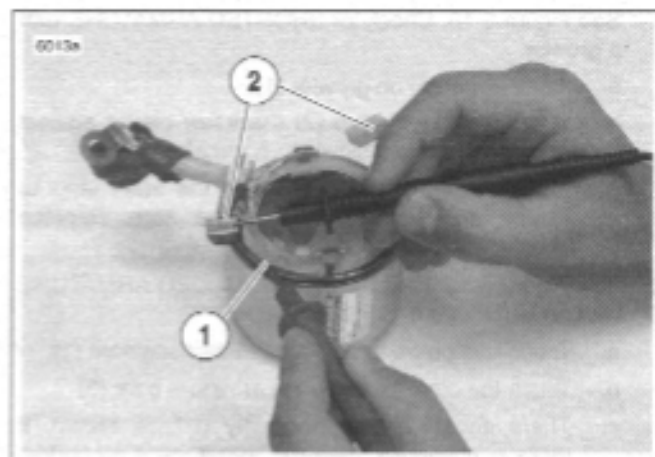
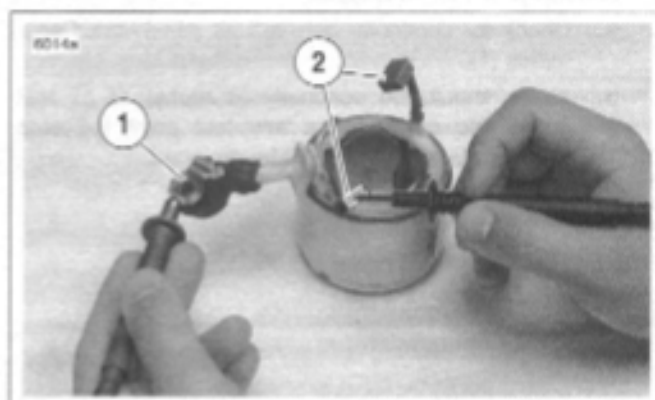
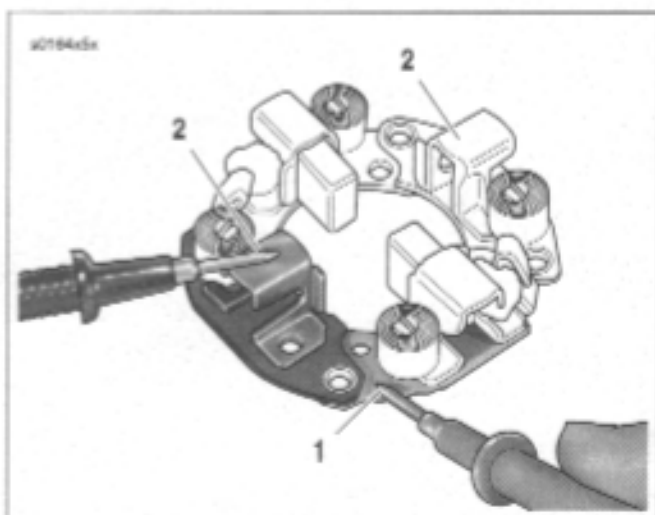
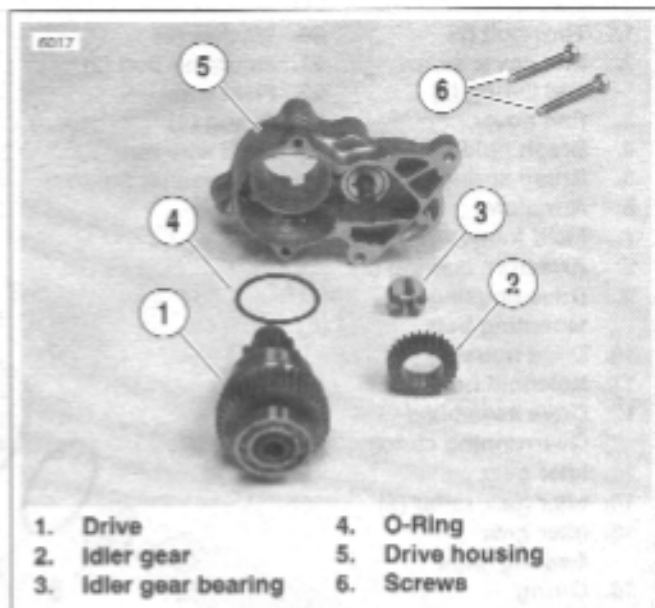

Figure 5-21. Grounded Field Test
Figure 5-22. Open Field Test
Figure 5-23. Brush Holder Insulation Test
Figure 5-24. Starter Drive Assembly
12. See Figure 5-21. Check for **GROUNDING FIELD COIL** with an ohmmeter or continuity tester.
- a. Touch one probe to the frame (1).
- b. Touch the other probe to each of the brushes (2) attached to the field coil.
13. See Figure 5-22. Check for **OPEN FIELD COILS** with an ohmmeter or continuity tester.
- a. Touch one probe to the field wire (1).
- b. Touch the other probe to each of the brushes attached to the field coil(s) (2).
14. See Figure 5-23. Test **BRUSH HOLDER INSULATION** with an ohmmeter or continuity tester.
- a. Touch one probe to holder plate (1).
- b. Touch the other probe to each of the positive (insulated) brush holders (2).
15. See Figure 5-24. Remove two drive housing mounting screws (6). Remove drive housing (5) from solenoid housing.
16. Remove drive (1), idler gear (2), idler gear bearing (3), and O-ring (4) from drive housing (O-ring is located in drive housing groove).
1. See Figure 5-24. Clean, inspect and lubricate drive assembly components. Lubricate parts with high temperature grease, such as LUBRIPLATE 110.